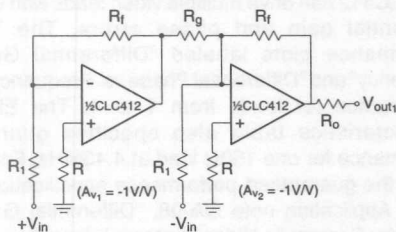
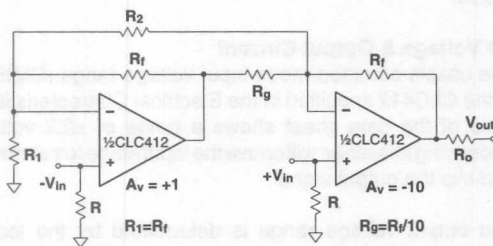

Figure 5
Figure 5a
**Differential Line Receiver.** Figures 5 and 5a show two different implementations of an instrumentation amplifier which convert differential signals to single-ended. Figure 5a allows CMRR adjustment through  $R_2$ .